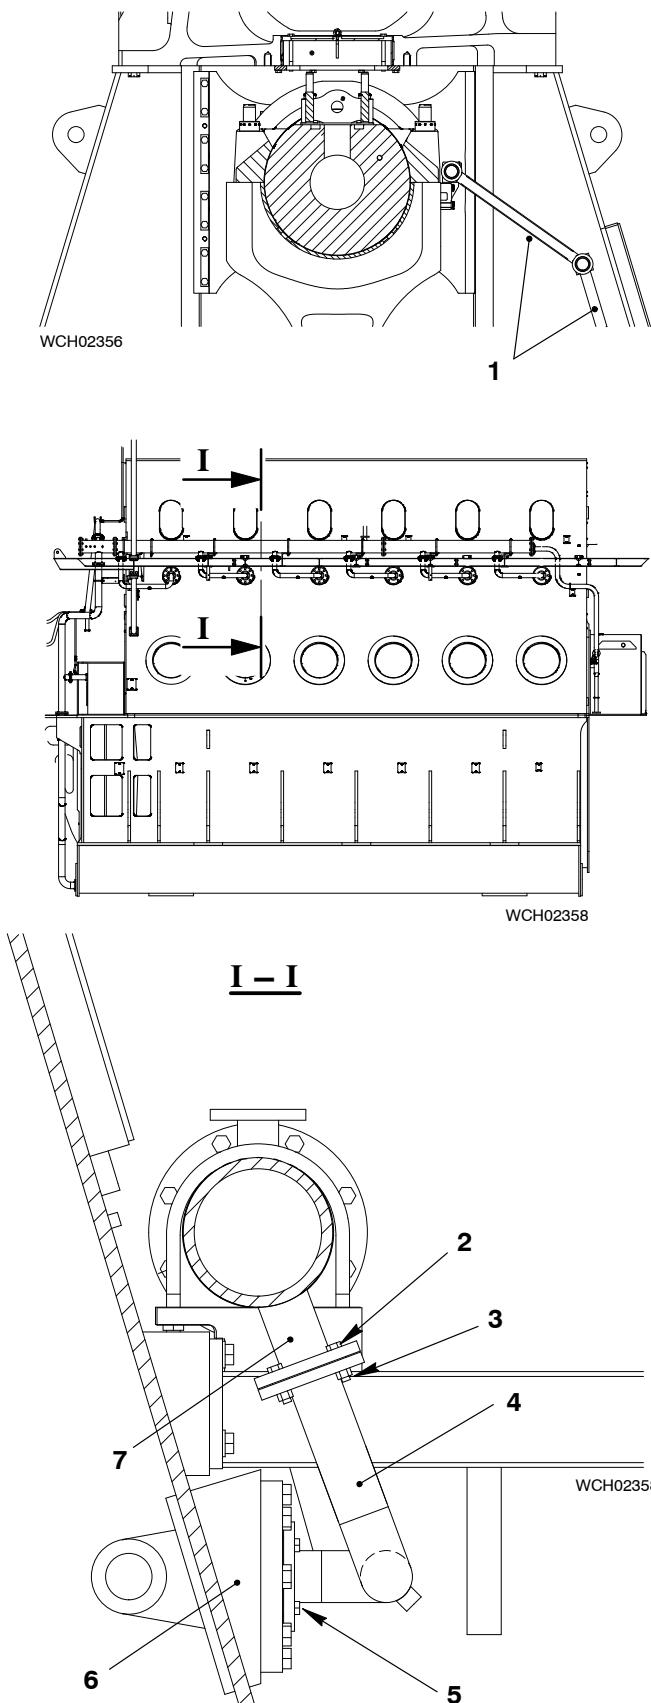

Fig. 2: Tools 9486-01 and 9423-01
- Remove the top and bottom levers (1) (see Fig. 2).
- Remove the screws (5) from the flange of the pipe (4).
- Hold the pipe (4) and remove the nuts (3) and the screws (2).
- Remove the pipe (4).
- Install blanks to the oil inlet (6) and the oil supply pipe (7).